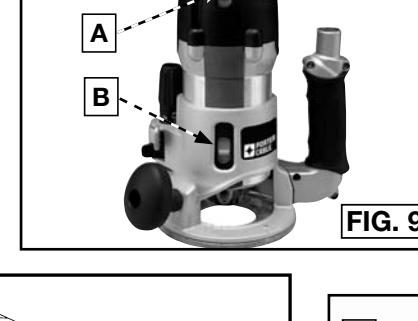

FIG. 9
Two switches (A and B) Fig. 9 turn this tool "ON" and "OFF". The upper switch (A) will automatically turn the tool "OFF" if the tool is placed upside down on a surface.